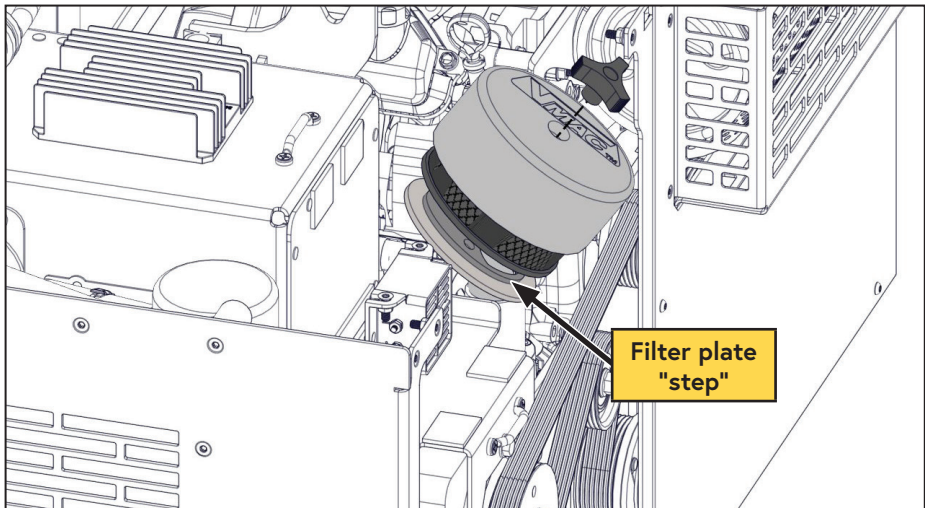

Figure 22 — Install air filter element
- ☐ Ensure the filter element fits securely onto the filter plate "step" (Figure 22).